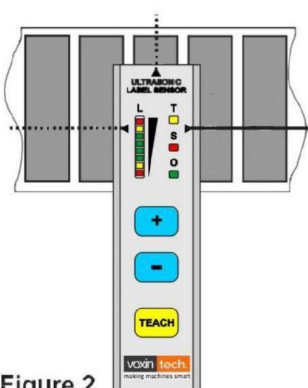

Figure.2
3. The tape need to be positioned on a label - Figure 2.